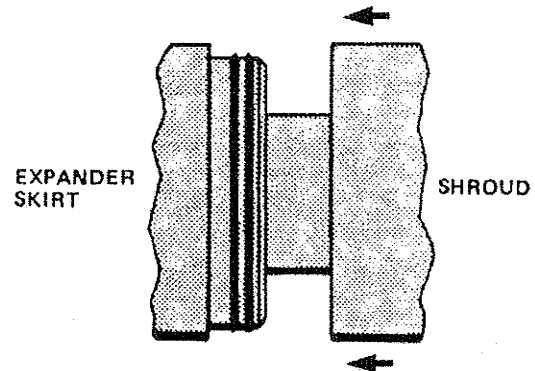

Figure 9 Install Vacuum Shroud
16. Press the vacuum shroud onto the skirt of the refrigerator. Align the shroud windows with the opening(s) in the radiation shield. See Figure 9.
10. Press the vacuum shroud onto the skirt of the refrigerator. Align the shroud windows with the opening(s) in the radiation shield. See Figure 9.